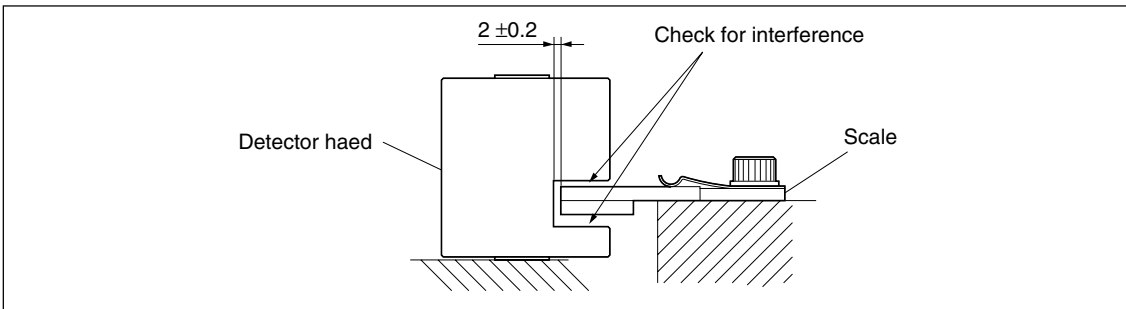

Fig. 3-19
- 4 Check that there is no interference between the scale and detector head, and make sure that there is a gap of  $2 \pm 0.2$  mm as shown in Fig. 3-19.